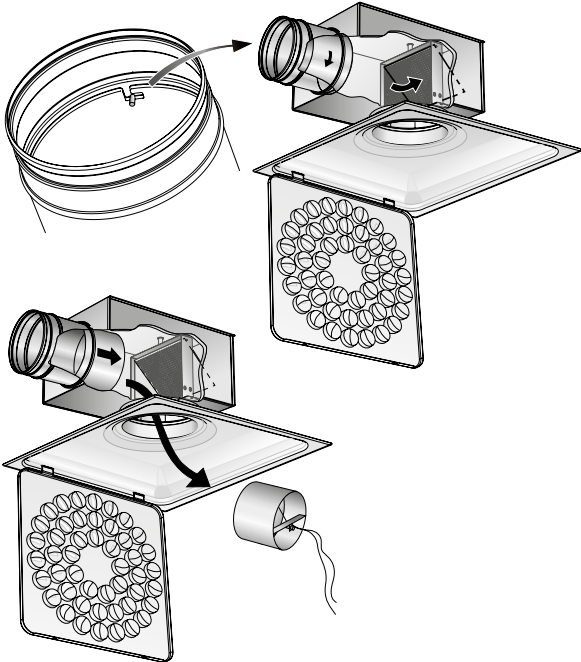

Figure 4. Dismantling the damper when using REACT ALS and ALS commissioning box.
- The duct system can be reached for cleaning by opening the diffuser face. If a REACT ALS or ALS commissioning box is used, pull the distributor plate aside and then grip and twist the damper unit from of its mounting. See Figure 4.